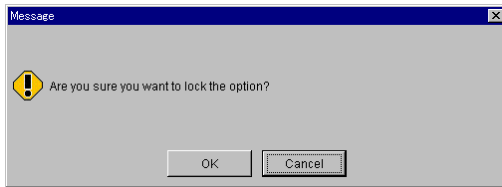

Figure 4.11 Option De-install/Lock Confirmation
7. A message appears, requesting confirmation to uninstall the SNMP option (see Figure 4.11). Click **OK**.